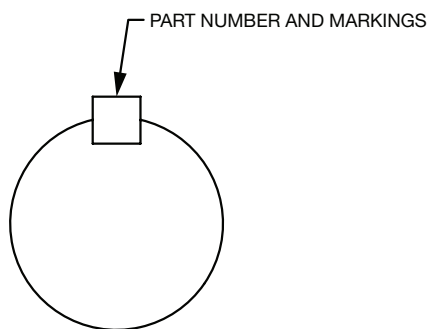

Figure 5 - Key Marking
**NOTE: In most cases the keys that are supplied with the bushing kit are NOT square keys and the orientation of the key is important. Install the key so that it fits snugly in the width of the keyseat. The keys are marked with a part number and some keys are also etched with “THIS SIDE UP”—these markings should be showing on the top of the key when it is installed in the shaft keyseat. See Figure 5 below.**